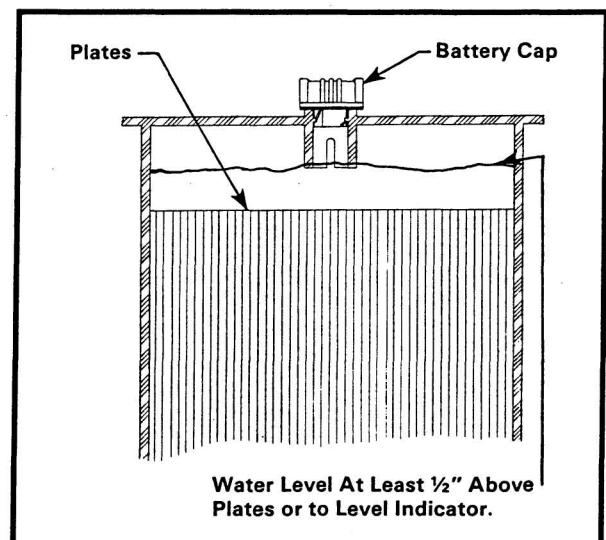

Figure 8
2. The water level in the batteries should be checked weekly (See Figure 8 for proper level). Add water only after charging unless the water level is below the top of the plates. In this case, add just enough water to cover the plates, charge and then check the level again. For best battery life, add only distilled water to the batteries.